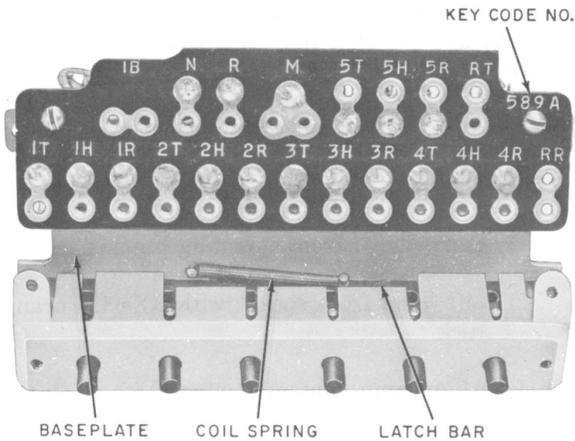

Fig. 2—589-Type Key, Top View
2.09 Maintenance of the 589-Type Key (Fig. 2 and 3) consist of: